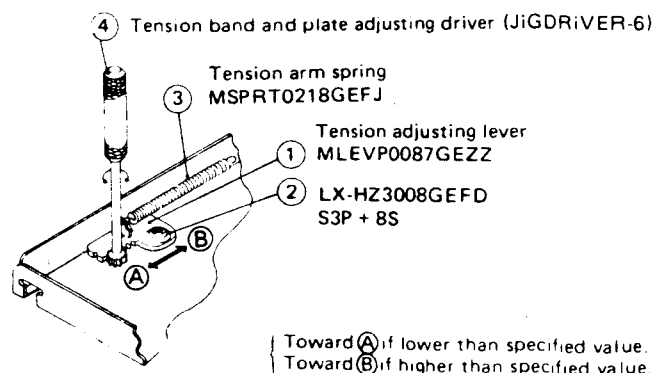

Figure 1-12.
1. If the reading is below 50g.cm, shift the tension adjusting lever ① in the direction of arrow ➡ A in Fig. 1-12, and tighten the screw ②.
2. If the reading is over 58g.cm, shift the tension adjusting lever ① in the direction of arrow ➡ B in Fig. 1-12, and tighten the screw ②.